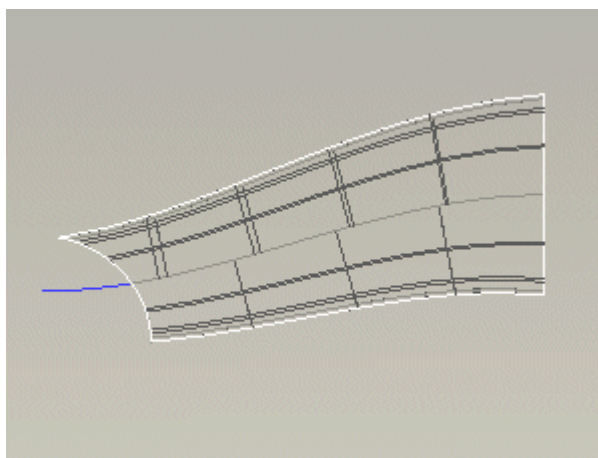

Figure 4
4. The final geometry that is created by the spinal bend is shown in Figure 4.